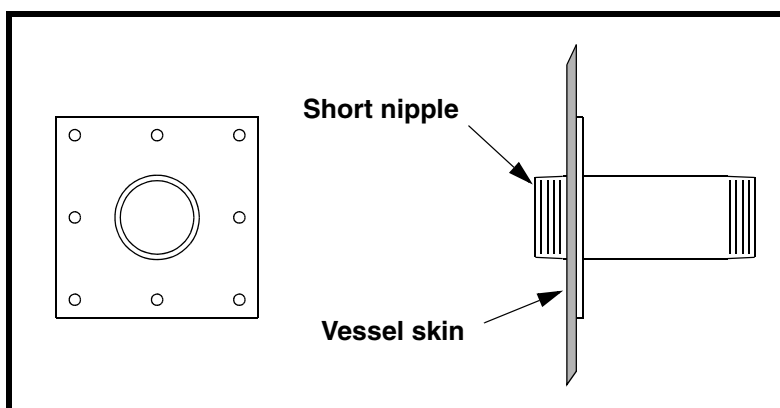

Figure 5. Standard Mounting Plate
- a. If using a standard mounting plate (Figure 5), cut a round hole 4-5/8 in. (117 mm) in diameter in storage vessel for each mounting plate. Place short nipple into hole and field weld mounting plate to vessel skin.